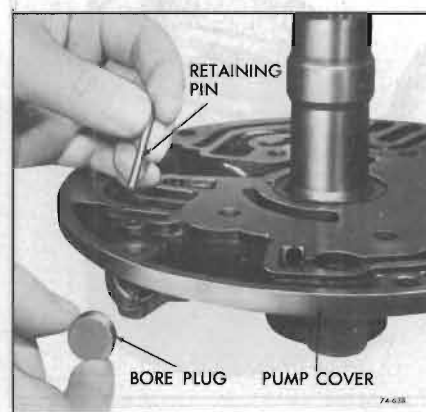

Figure 74-638
7. Install the pressure regulator valve bore plug and retaining pin into opposite end of bore. See Figure 74-638.